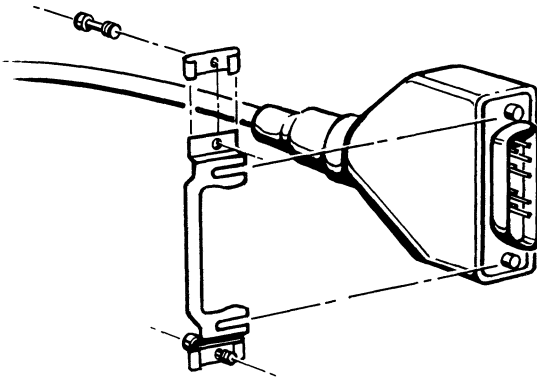

Figure 2-10. Assembling the Adapter Plate
2. As shown in figure 2-10, align the slots in the adapter plate with the indents in the lock posts on the transceiver cable and press the plate on to the connector.